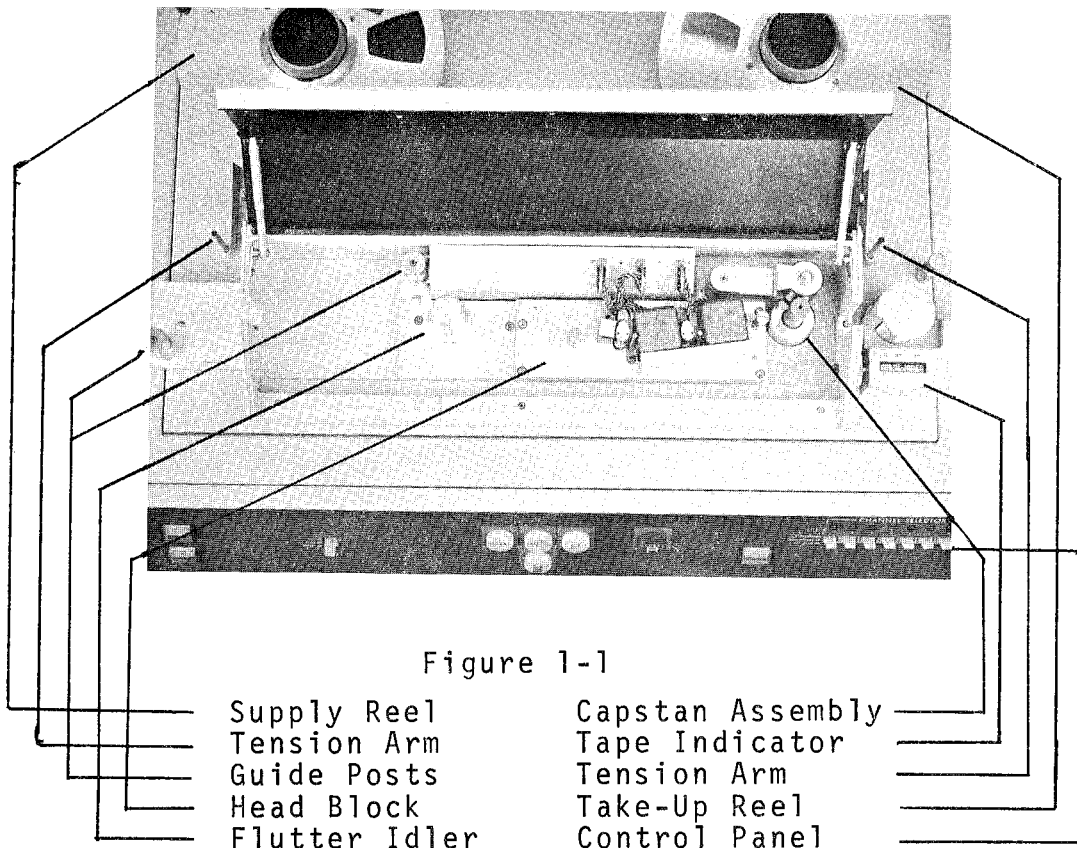
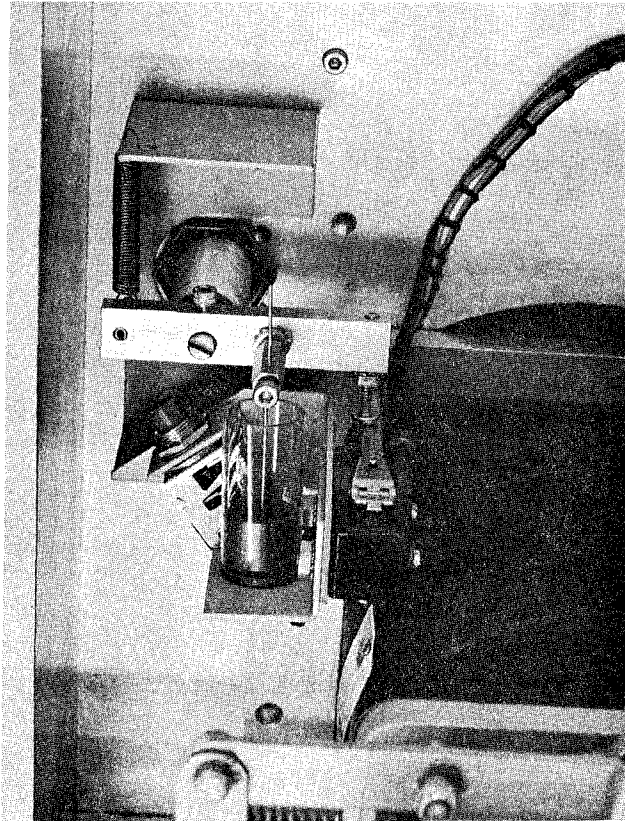

Figure 1-1
FIGURE 1-3
1.2 TAPE TRANSPORT (FIGURE 1-1)
The tape path also includes a viscous damped flutter idler and two silicone damped tape tension arms. Tension arms, (Figure 1-1), when moved to their respective outboard positions, release the brakes on the adjacent turntable to facilitate rotating the table by hand. Dash pots ease the return to neutral when the arms are released. (Figure 1-3). A tape position index reads hours, minutes and seconds with repeat accuracy of  $\pm 0.1\%$  at 15 IPS.